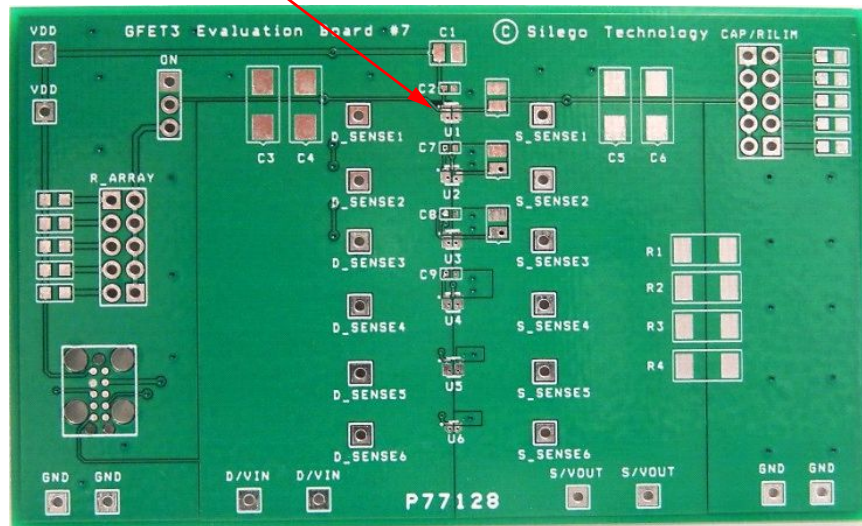

Figure 1. SLG59M1598V Evaluation Board.
2. Since the D and S pins dissipate most of the heat generated during high-load current operation, it is highly recommended to make power traces as short, direct, and wide as possible. A good practice is to make power traces with absolute minimum widths of 15 mils (0.381 mm) per Ampere. A representative layout, shown in Figure 1, illustrates proper techniques for heat to transfer as efficiently as possible out of the device;
A GFET3 Evaluation Board for SLG59M1598V is designed according to the statements above and is illustrated on Figure 1. Please note that evaluation board has D_Sense and S_Sense pads. They cannot carry high currents and dedicated only for RDS_{ON} evaluation.